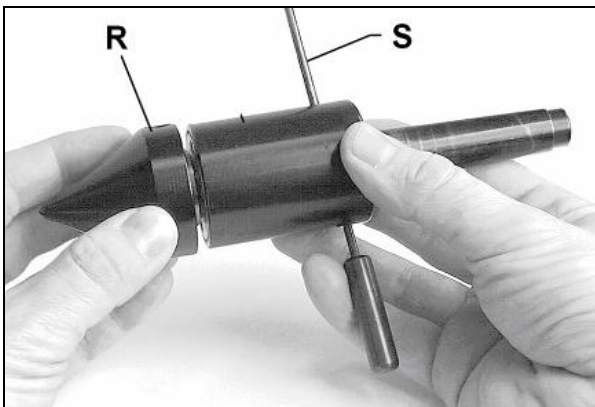

Fig 33
To screw off the cone (R, Fig 33) the life centre must be locked against rotation with the supplied pin (S).